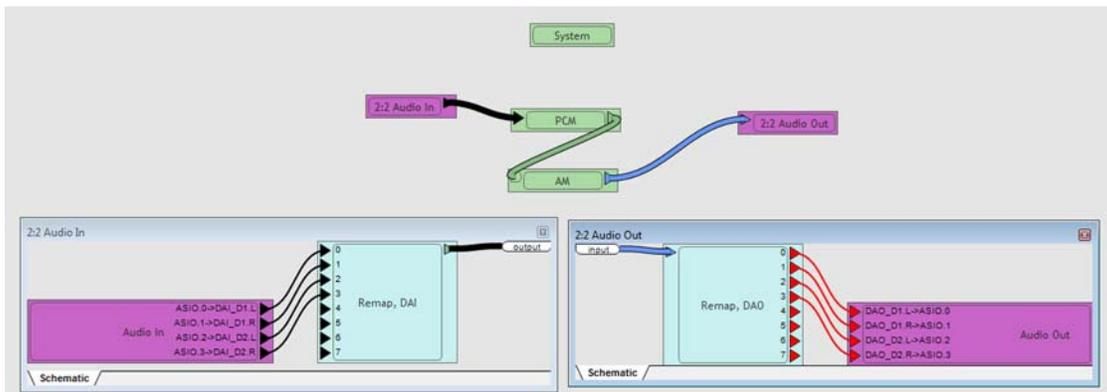

Figure 5-2. Analog Pass-thru
- An analog pass-thru project is shown in Fig. 5-2.